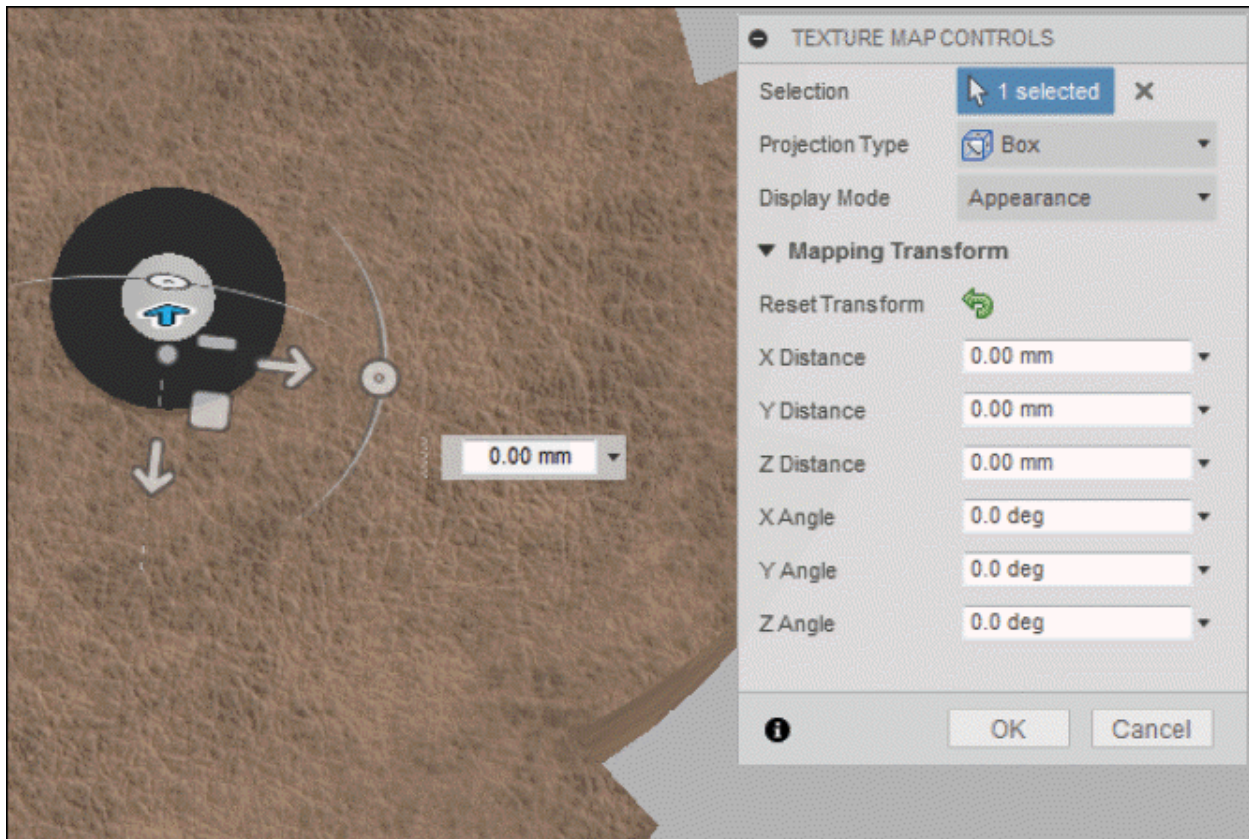

Figure-12. Dialog box on selecting Box-option
- On selecting the **Box** option, the manipulator and updated dialog box will be displayed; refer to Figure-12.